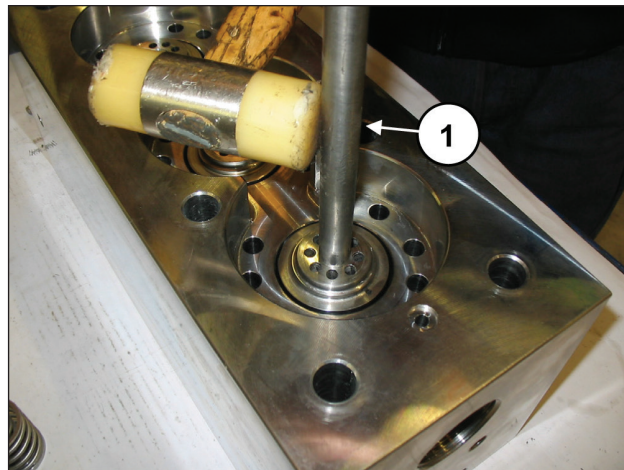

Fig. 115
If the valve seats are blocked on the head due to the formation of scale or oxide, they must be freed by inserting the tool (code 034300020 for SKH20-22-24 or code 034300010 for SKH26-28-30) in the outlet hole (pos. ①, Fig. 115).